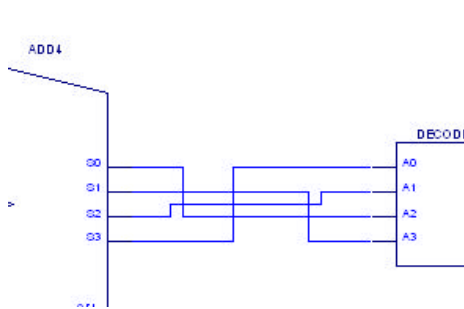
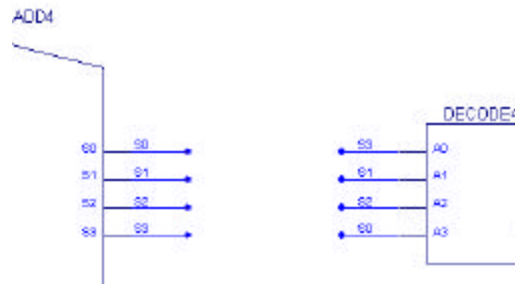

Figure 1
Figure 2
- * You do not have to draw a wire to connect two symbol pins. You can just give the same name to the nets connected to these pins. Figures 1 and 2 are equivalent, but Figure 2 is easier to understand and debug.